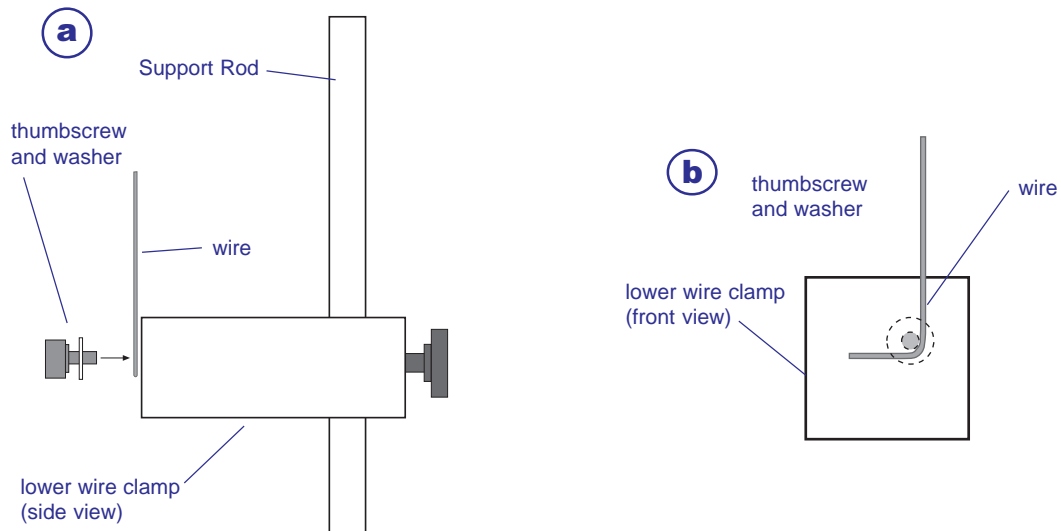

Figure 4
- Align the guide of the upper wire clamp with the slot of the shaft of the RMS. Slide the upper wire clamp onto the shaft (Figure 4).